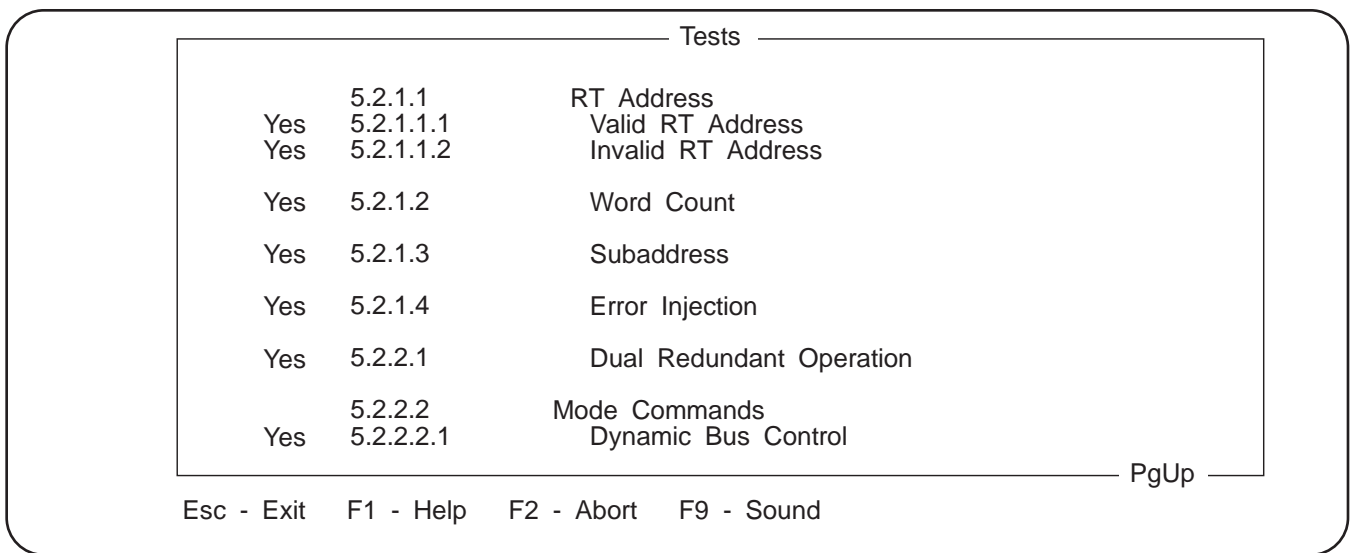

FIGURE 9. TEST MENU WINDOW
This menu allows the user to select the tests to be executed (see FIGURE 9). The user may scroll through the list; pressing a `Y` will select the line item, a `N` will deselect it; furthermore, selecting (Y) or deselecting (N) for items that have subordinate tests will select or deselect all the subordinate tests. (e.g., selecting test 5.2.1.1 will select every test; selecting 5.1 test will select all 5.1 subordinate tests up to, but not including, 5.2.1.2 tests.) The "Home" key takes you to the top of the list, and the "End" key takes you to the bottom of the list. TABLE 4 is a complete listing of the PTP tests, by paragraph.